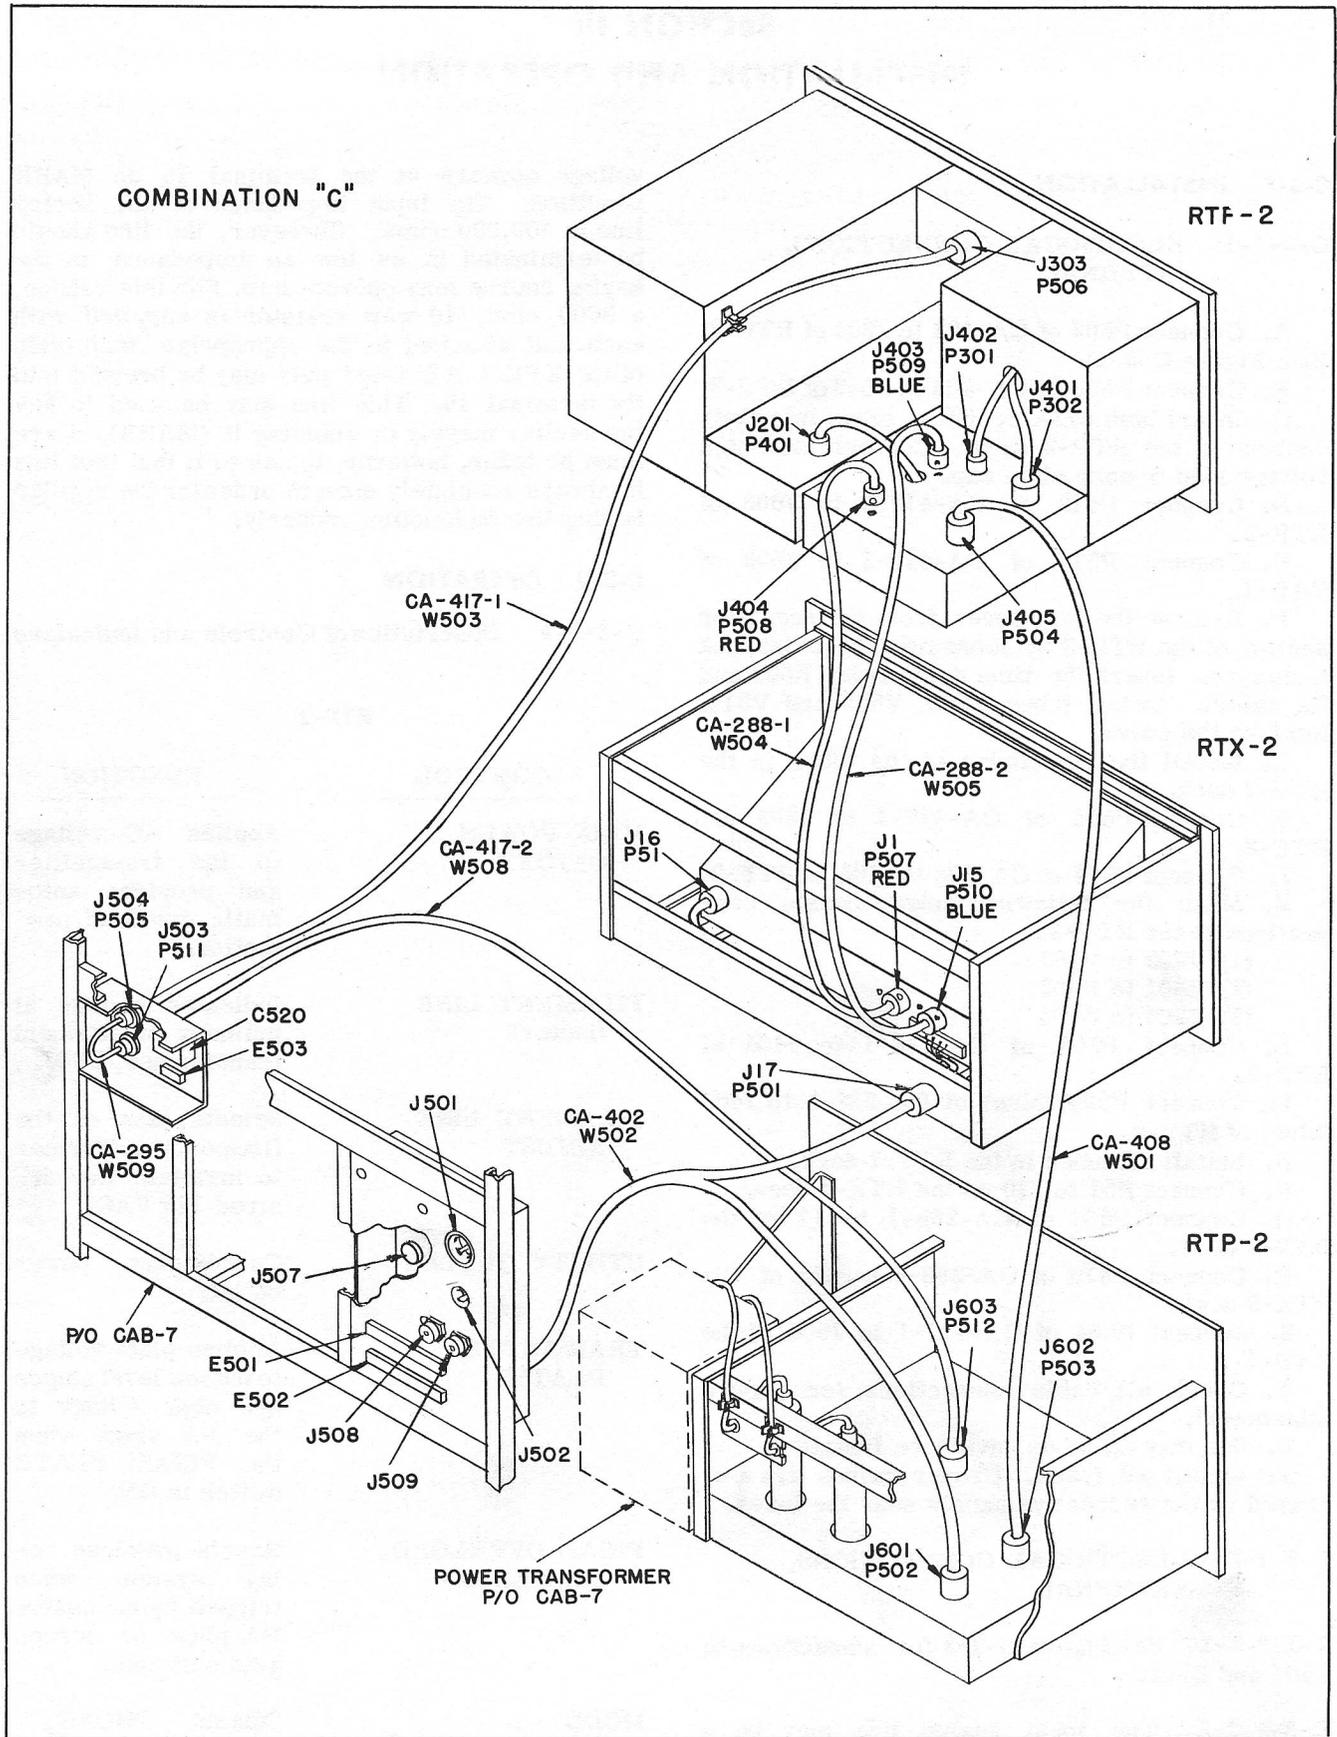

Figure C-3-1 Cabling Diagram Model GPT-750C2
- A. Connect P502 of CA-402 to J601 of RTP-2. (See Figure C-3-1)
- (1) J402 to P301